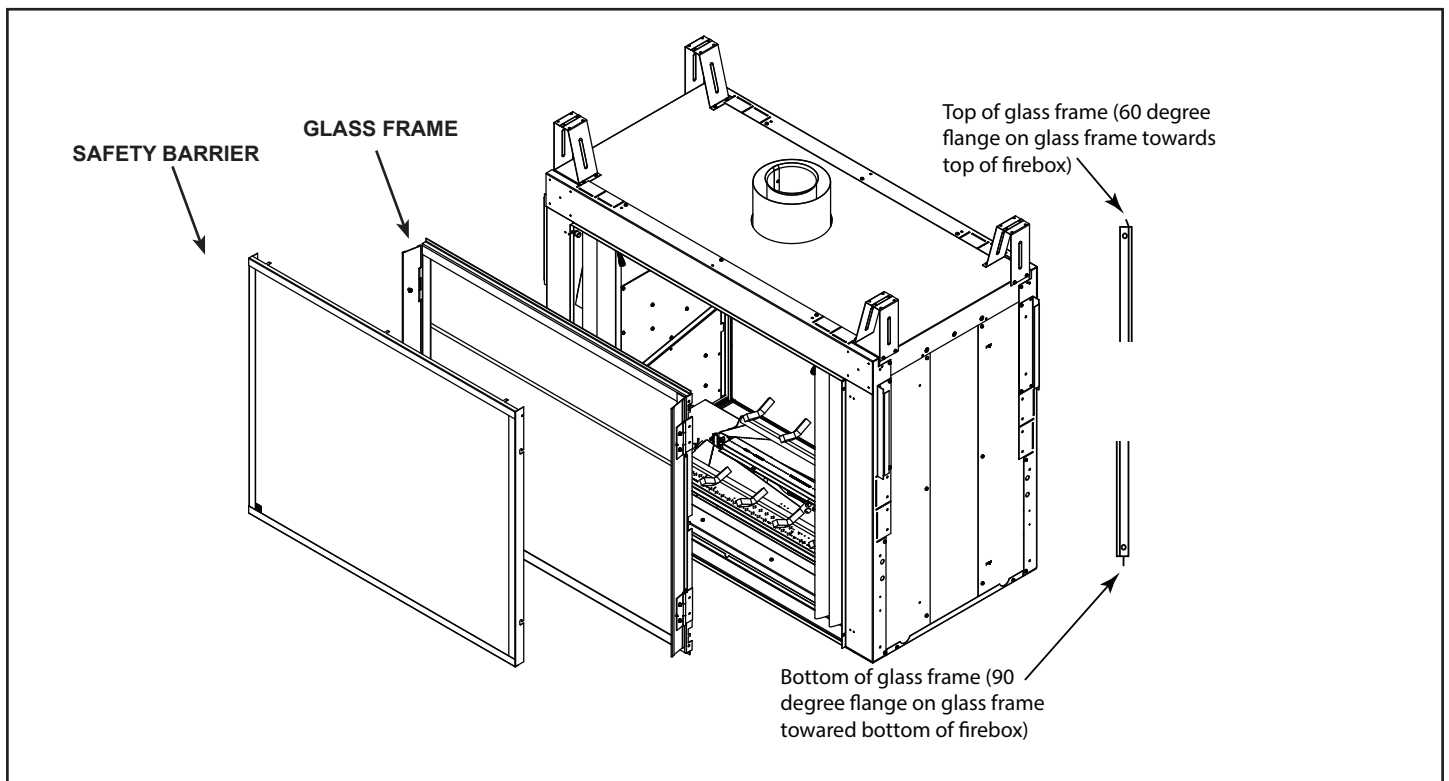

Figure 10.6 Remove Safety Barrier and Glass Frame
3. Remove glass frame by releasing the three latches located at the top of the firebox. Tilt glass away from the unit, lift glass frame up and away from the unit. See Figure 10.6.